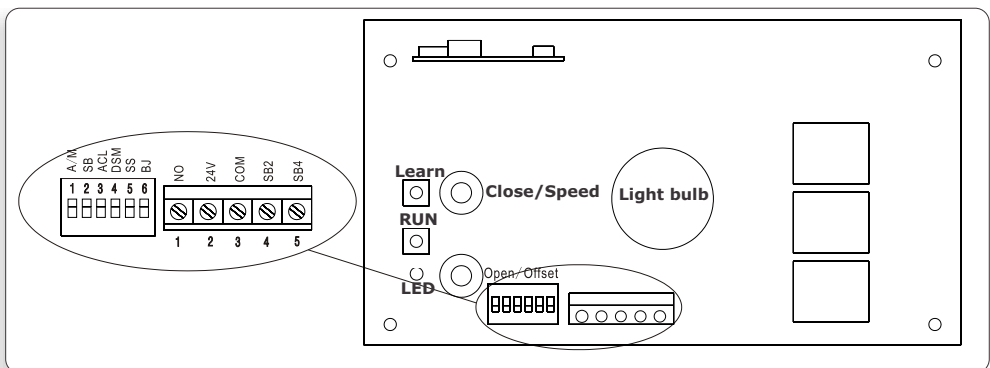

Figure 17
- III. select Dipswitch No.1 to the "OFF" position (Figure.17)
- Select Dipswitch No.6 (BJ) to the "ON" position. (Figure.17)
- Select the Dipswitches as required to enable the desired functionality (Figure.17)
- Select Dip 4 (DSM) to the "ON" position. (Figure.17)